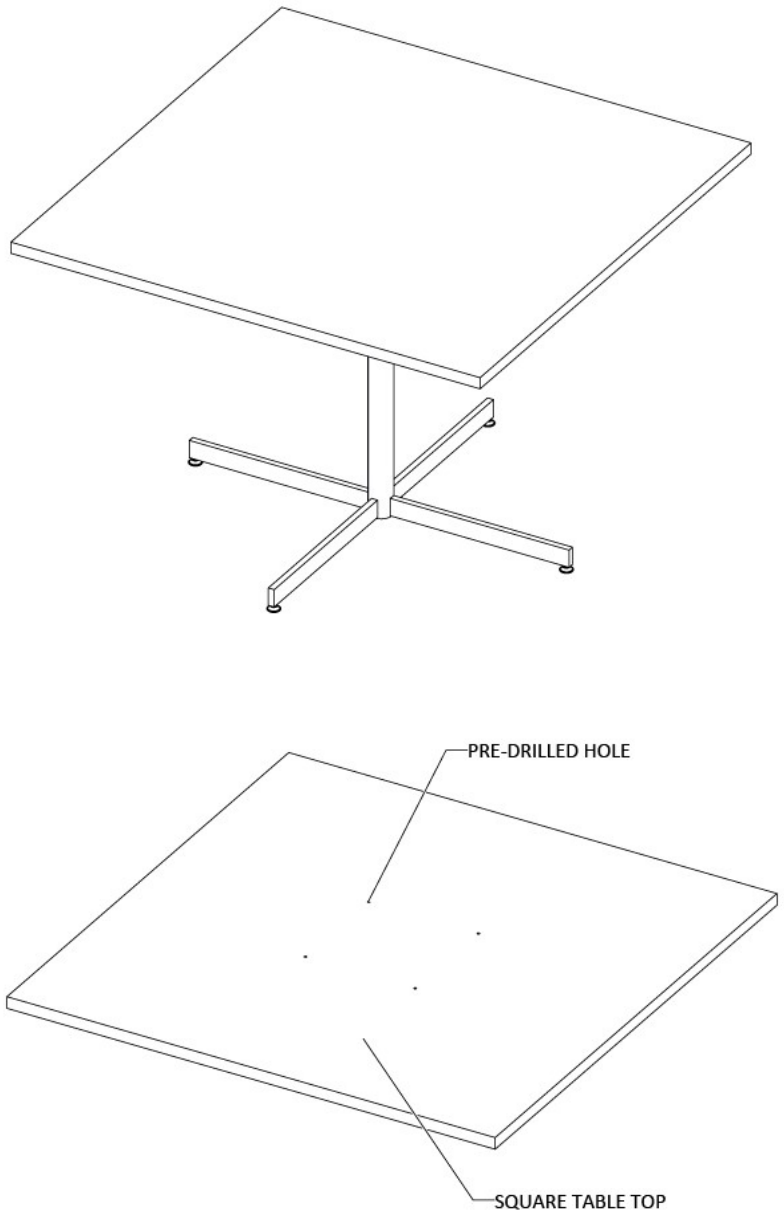

Figure 1
1. Place the square table top on a clean solid surface or floor with the underside facing up, (Figure 1).